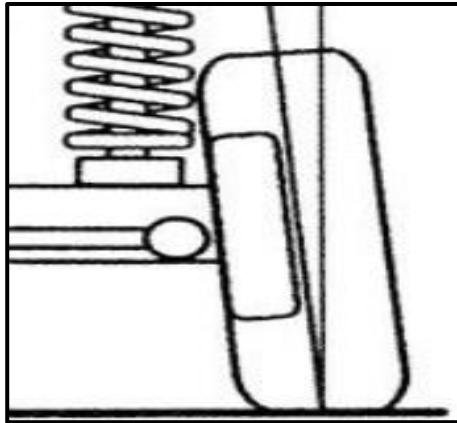

FIGURE 4.13
- 4.13 How does the wheel alignment shown in FIGURE 4.13 below affect the wear of tyre?